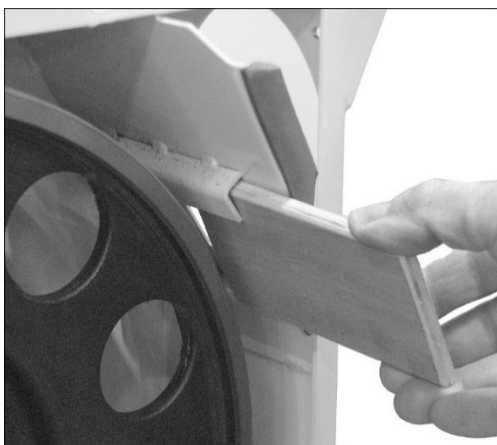

Figure 5-6a
2. Open bottom door and slide the wood insert until it contacts the blade edge (see Figure 5-6a).